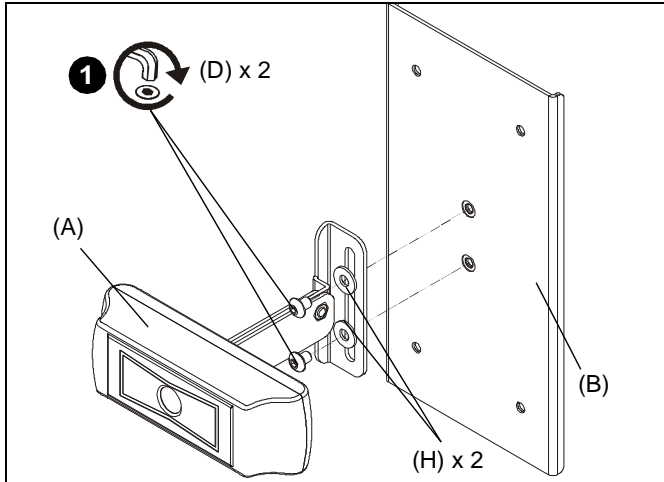

Figure 5
1. Attach FCA820V/VE camera mount (A) to center plate (B) using two #10-32 x 1/4" button head cap screws (D) and two #10 washers (H). (See Figure 5)